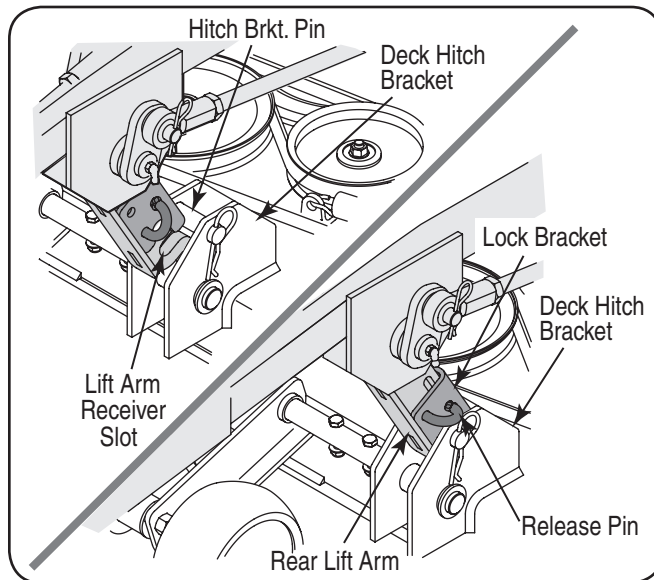

Figure 13
- Slide the deck forward, then use the 3-point hitch control lever to lower the rear lift arms until the receiver slots of the arms align with pins in the hitch brackets on the rear the deck. Refer to Figure 13.
- Roll the deck rearward to fully engage the deck hitch bracket pins in the receiver slots of the RH and LH rear lift arms. Refer to Figure 13.
- From either side of the tractor, pull the rear lift arm release pin out of the lower hole in the lock bracket and slide the lock bracket downward to straddle the deck hitch bracket pin. Align the upper hole in the lock bracket with the lift arm hole. Pivot the release pin upward to the upper hole and release so that the pin goes fully through the lock bracket and lift arm to fix the lock bracket in the locked position. See Figure 13.
- Move to the other side of the tractor and repeat the above procedure to capture the deck hitch bracket pin in the rear lift link on the other side of the tractor. Refer to Figure 13.
- Roll the deck forward to disengage the deck hitch bracket pins from the receiver slots of the RH and LH rear lift arms. Refer to Figure 13.